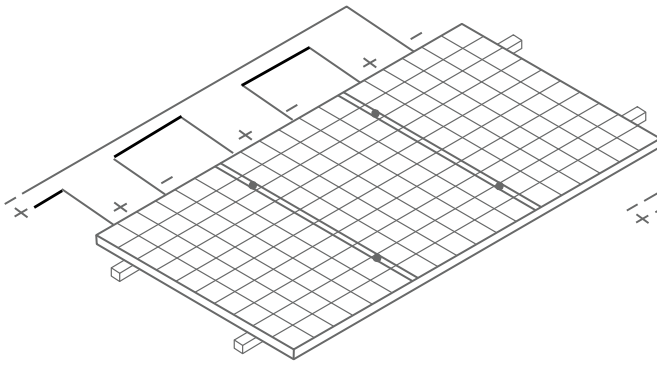

Figure 5 Connection in Series
- It is not allowed to use the Modules in different models in the same solar photovoltaic system. When the Modules are connected in series, the voltage of every string shall not be higher than the maximum voltage of the system (as shown in Figure 5). Reference equation of the maximum number of the Modules in serial connection: maximum system voltage of the module/ (1.3\* open-circuit voltage).